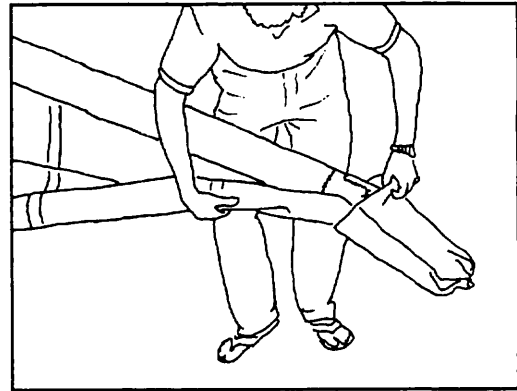

Figure 56
- 3) Before you de-tension the crossbar, remove the plastic wing tips, and the number one battens, and remove the first three (outboard most) cambered battens on each side. Roll up the sail at the wingtip and slide on the wingtip cover bag. Place the plastic wingtip fairings in the wingtip cover bags and secure the velcro tab on the bag. (Figure 56)